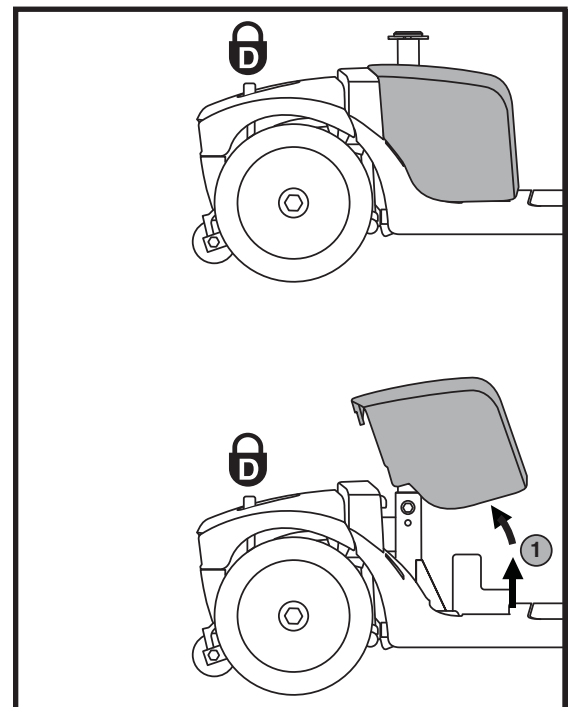

Figure 7. Battery Shroud Removal/Installation
1. Remove the seat and battery shroud. **See figure 7.**